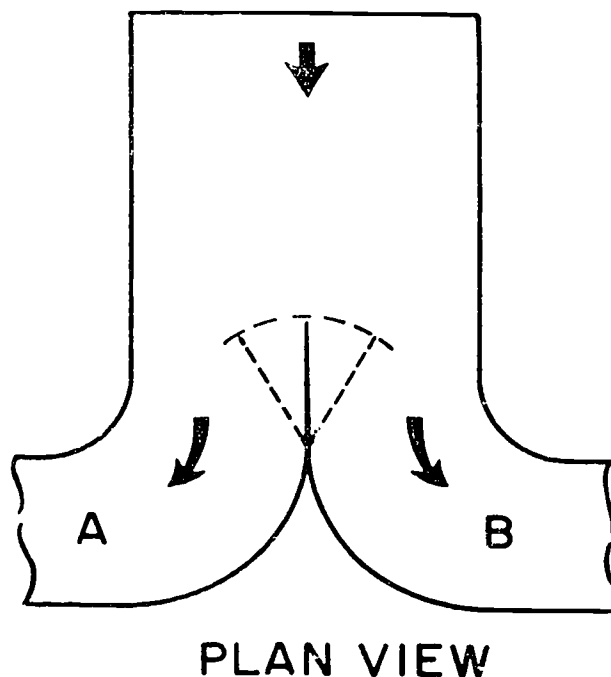

Figure 3-7. Deflecting damper in a duct system.
**Deflecting damper.** A deflecting damper, illustrated in figure 3-7, is sometimes called a splitter damper. It is a single blade hinged at one edge, and can be positioned with an accessible control handle. You install this directional control for airflow on the outside of the duct so that the damper can be
width of the blade varies according to the amount of airflow to be deflected. Usually, the width of the deflecting dampers is approximately  $3/4$  the width of the branch line, as shown in figure 3-7.